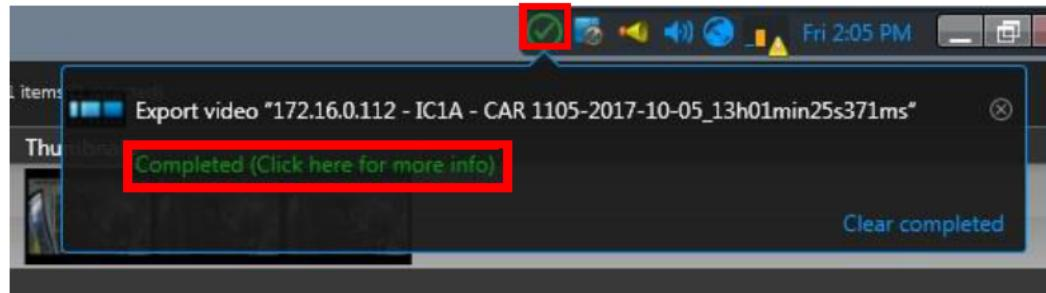

Figure 9-4: Export Completed
5. When the Export is complete the icon will change to a green check mark (Figure 9-4). Click the dialog for more info to bring up the more details screen (Figure 9-5).